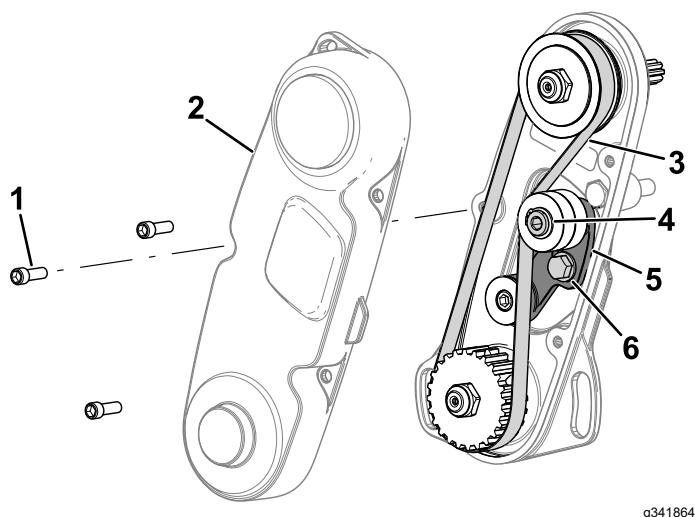

Figure 4
3. Remove the belt cover to expose the belt (Figure 4).
4. Loosen the idler-arm bolt and rotate the idler arm (Figure 4) to release tension on the belt.
5. Remove the belt (shown in Figure 4).
6. Install the belt and tension the belt by applying 6 to 7 N·m (55 to 60 in-lb) to the idler-arm internal hex shown in Figure 4.